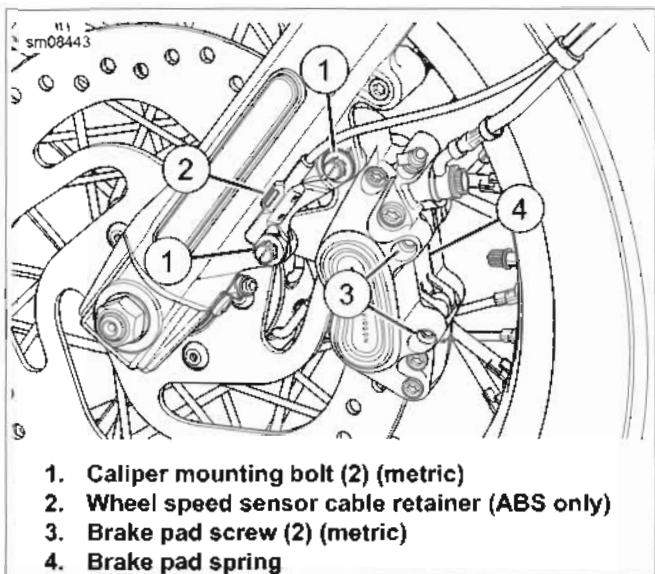

Figure 1-36. Front Brake Caliper
1. See Figure 1-36. Remove brake pad screws (3).
2. Remove brake pad spring (4).
3. Remove caliper mounting bolts (1). Detach caliper from front forks and brake disc.
See Figure 1-36. Brake pad spring (4) must be installed with the stamped arrow facing up.
8. Loosely install **new** brake pad screws (3) and **new** brake pad spring (4).
- b. **ABS models:** Place wheel speed sensor cable retainer (2) in position.
- c. Install caliper mounting bolts (1). Tighten to 28-38 ft-lbs (38.0-51.5 Nm).